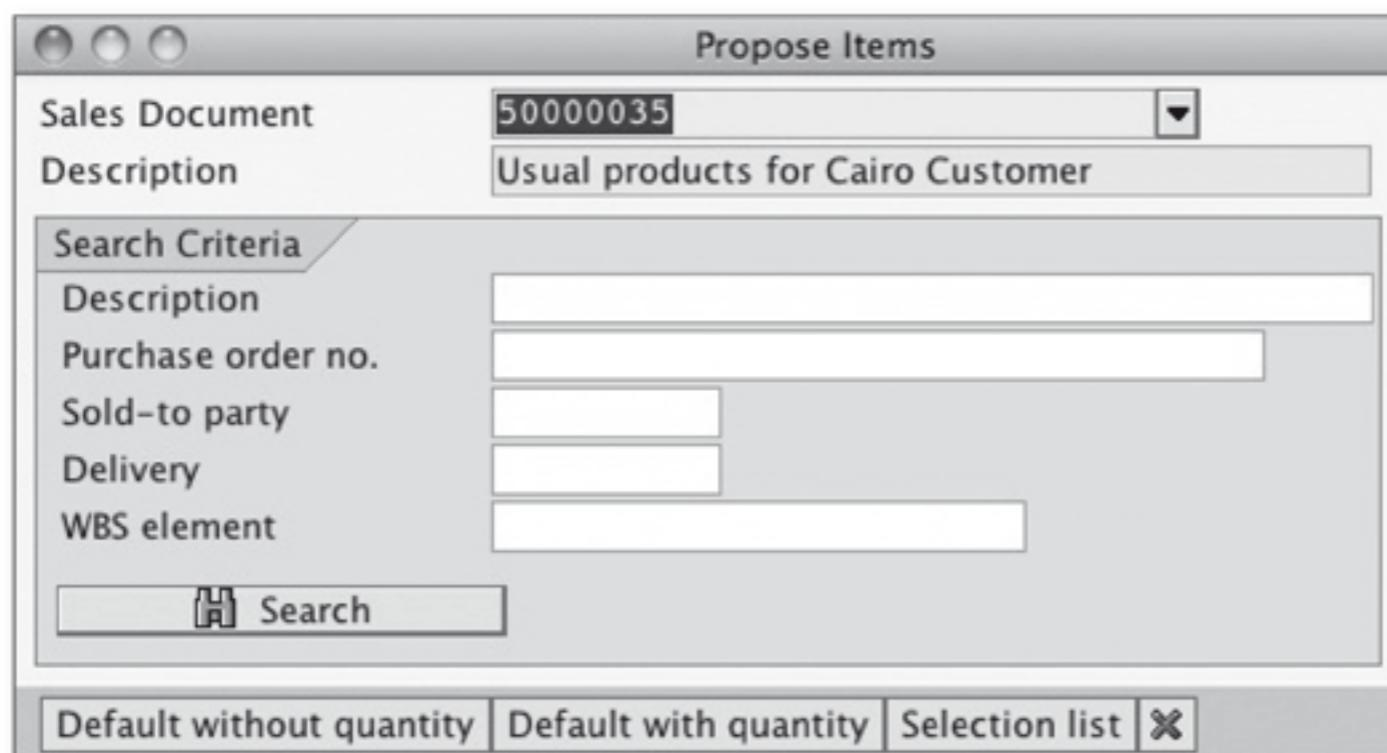

Figure 3.15 Propose Item Selection Window
5. Finally, you'll be prompted to confirm the proposal number. Here, you can select between proposing items with or without quantity. For this example, select the Default with Quantity button, as shown in Figure 3.15.